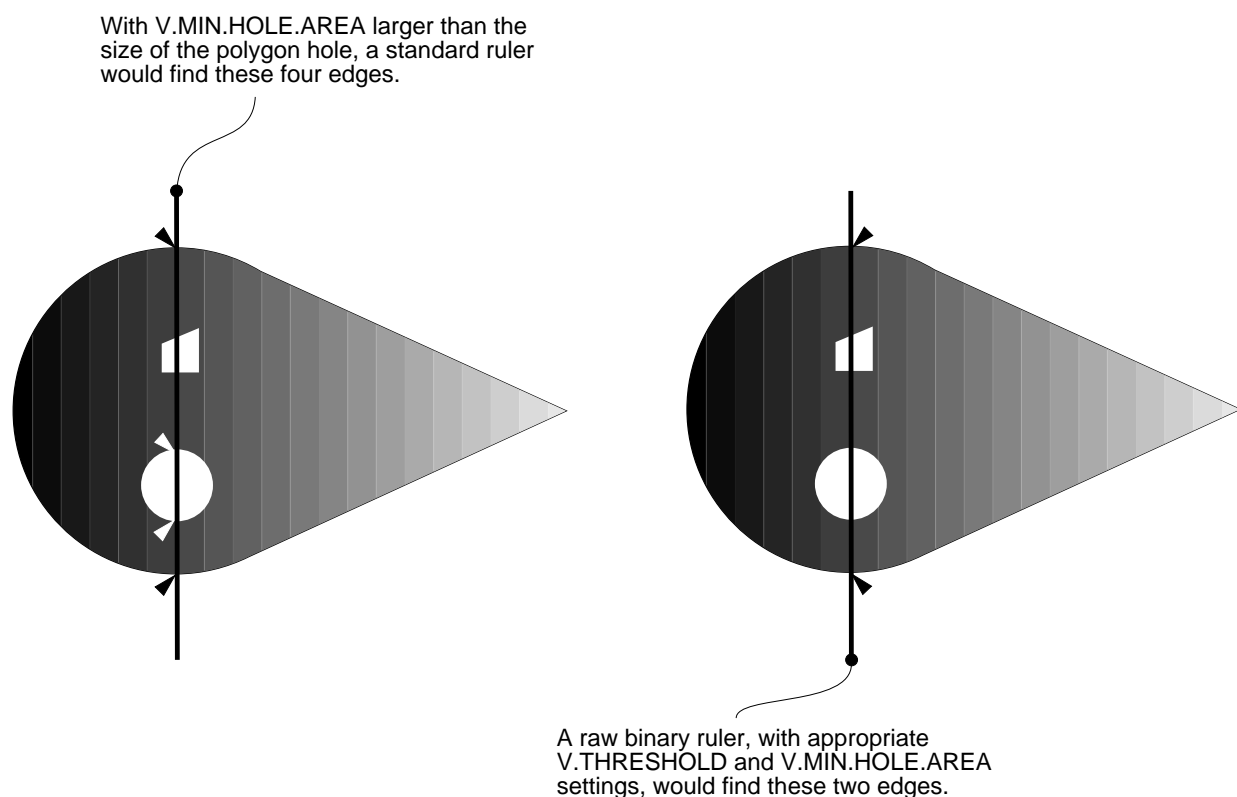

Figure 10-8. Ruler Types
**Figure 10-8** shows a comparison of standard binary and raw binary rulers.